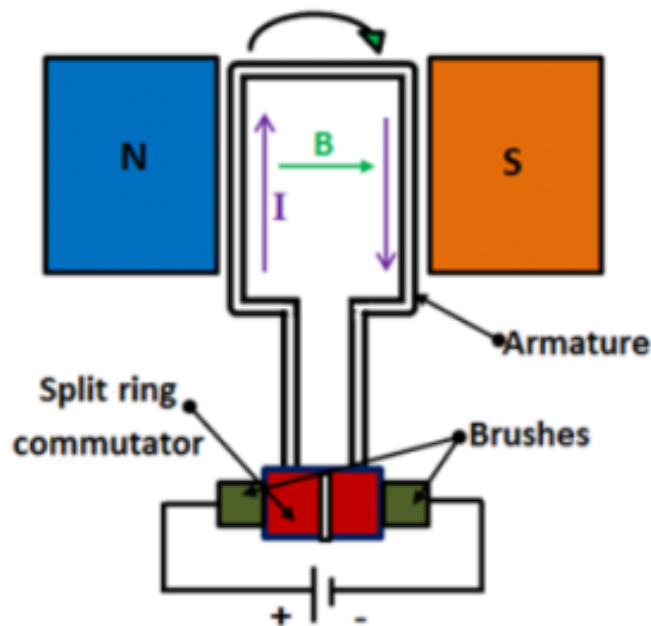

FIG. 1.6 TYPICALLY ILLUSTRATES THE BASIC PRINCIPLE OF DC GENERATOR.
- The fig 1.6 ii shows a 4-turn coil which has 8 conductors or coil sides.